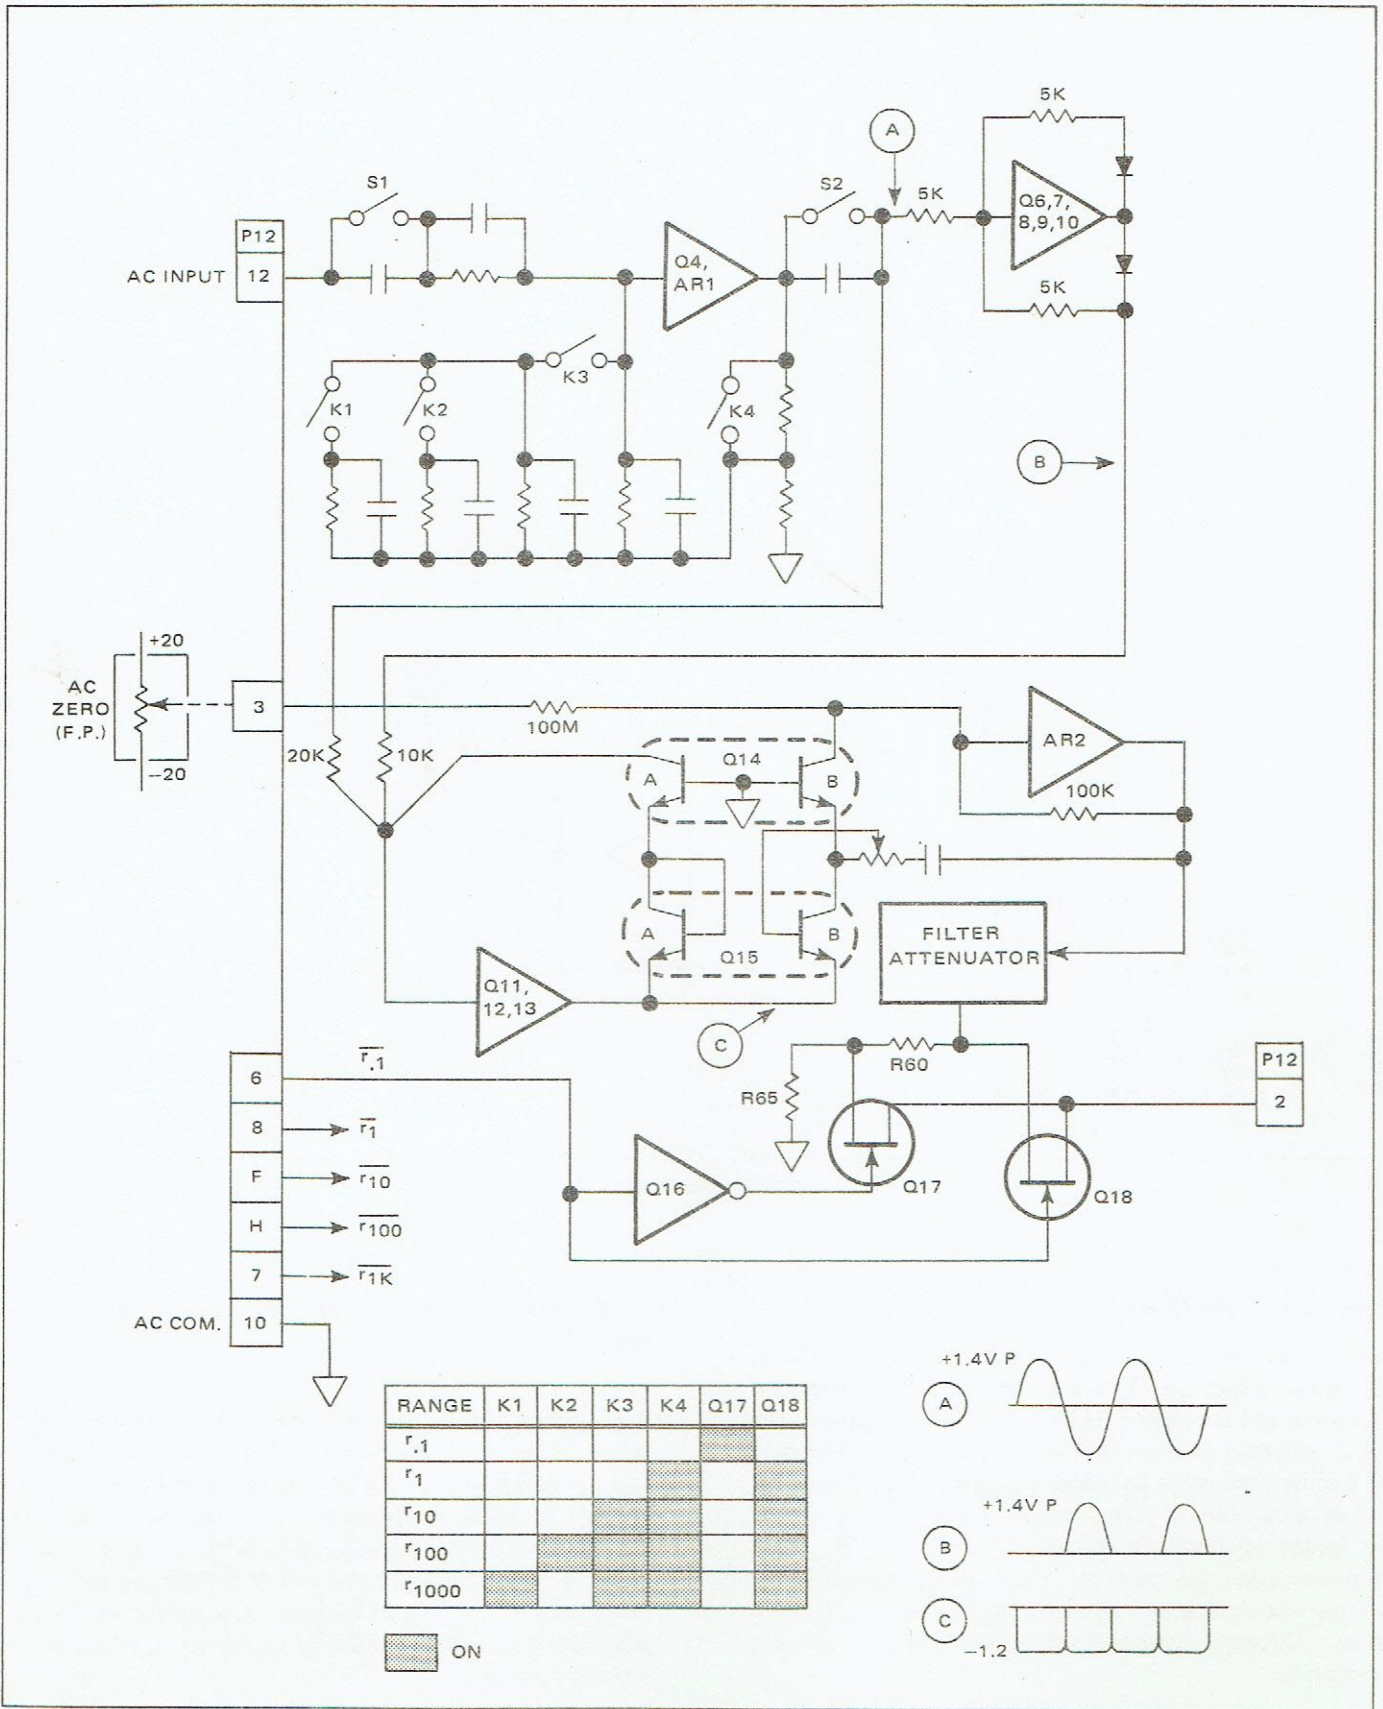

Figure 4.9 - Simplified Schematic - RMS AC Converter
4.51 The scaling amplifier and converter of the RMS AC Converter is mounted on a single printed circuit board that is located at connector J12. A bypass board (410686-A) occupies connector J11 and routes the output of the converter to the isolator input by way of the switching board. The converter circuitry is shown in simplified form in figure 4.9.